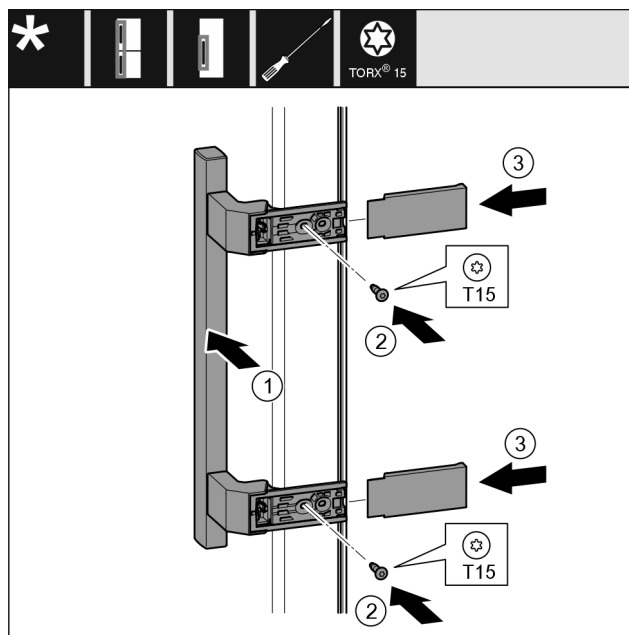

Fig. 36
- Place the handle Fig. 36 (1) on the opposite side.
- Tighten screws Fig. 36 (2) with screwdriver.
- Place the covers Fig. 36 (3) on the side and push them on.